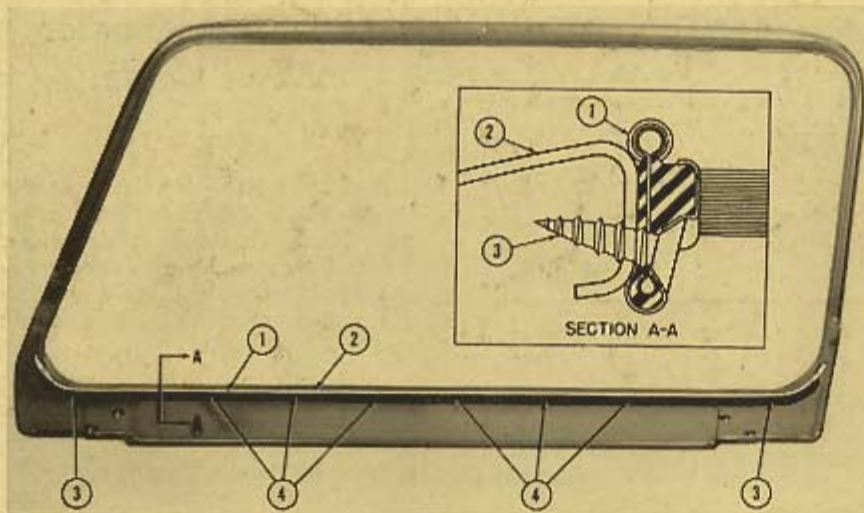

Figure 1
Place the new dust seal in position on the outer flange of the moulding so the seal follows the contour of the moulding as shown in figure 1, with the crimped edge of the stainless steel bead (1) resting on the radius of the moulding flange (2). Using a No. 44 (.0860"), or $\frac{5}{64}$ -inch drill, drill through the seal and the flange about 3 inches from each end of the seal and install a No. 4 x $\frac{3}{8}$ -inch